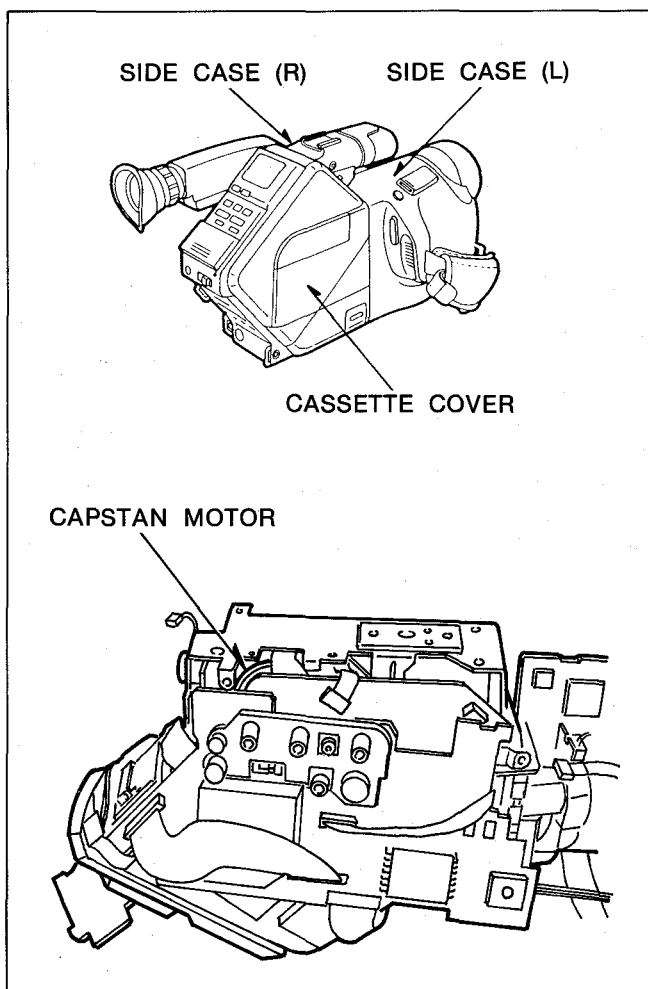

Fig. T10
(2) In Case that Tape is not rewound Completely but mechanism is fully unloaded.
- * Remove the cassette cover and side case L, R as shown in Fig. T10. (Please refer to Disassembly Procedures.)
- * Eject it as procedure (1).